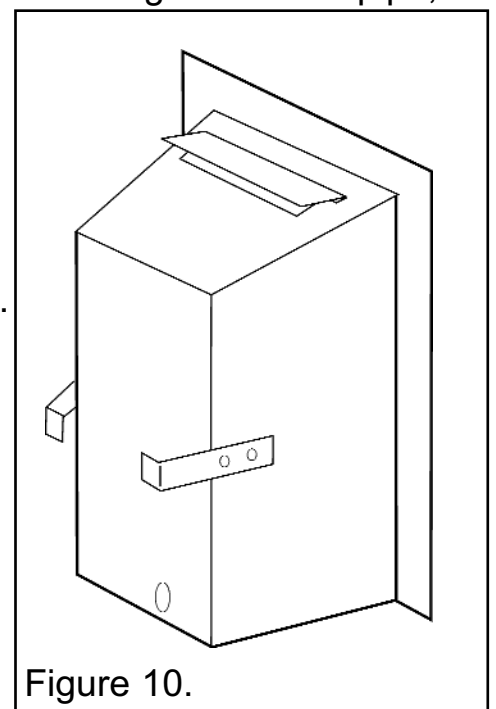

Figure 10.
5. The appliance is supplied with two fireback spacers. **Do not fit the fireback spacers if the fire is to be installed into a precast or clay flue block system as in section 3.10.3.** These should extend backwards to ensure sufficient clearance from the back of the fireplace. Remove the label and retaining screws from the rear sides of the hotbox. Position the fireback spacers as shown in figure 10. Secure the fireback spacers using the screws removed previously, and the two supplied with the fire.